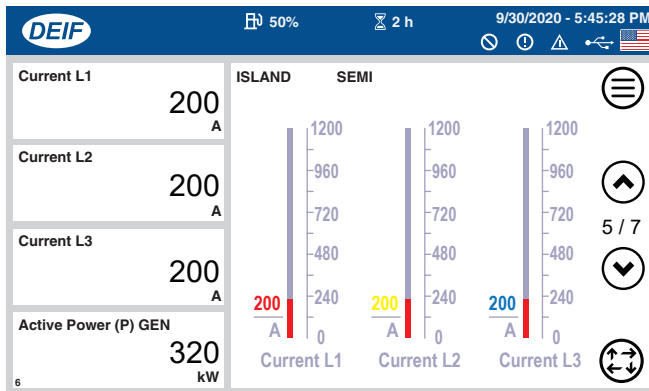

Figure 65. Output Current Status Screen (5 of 7)
14. Verify that the **Output Current Status** screen (5 of 7) is displayed. Observe the **L1, L2 and L3 current readings**. The current readings will indicate zero amps until a load is applied. See Figure 65.